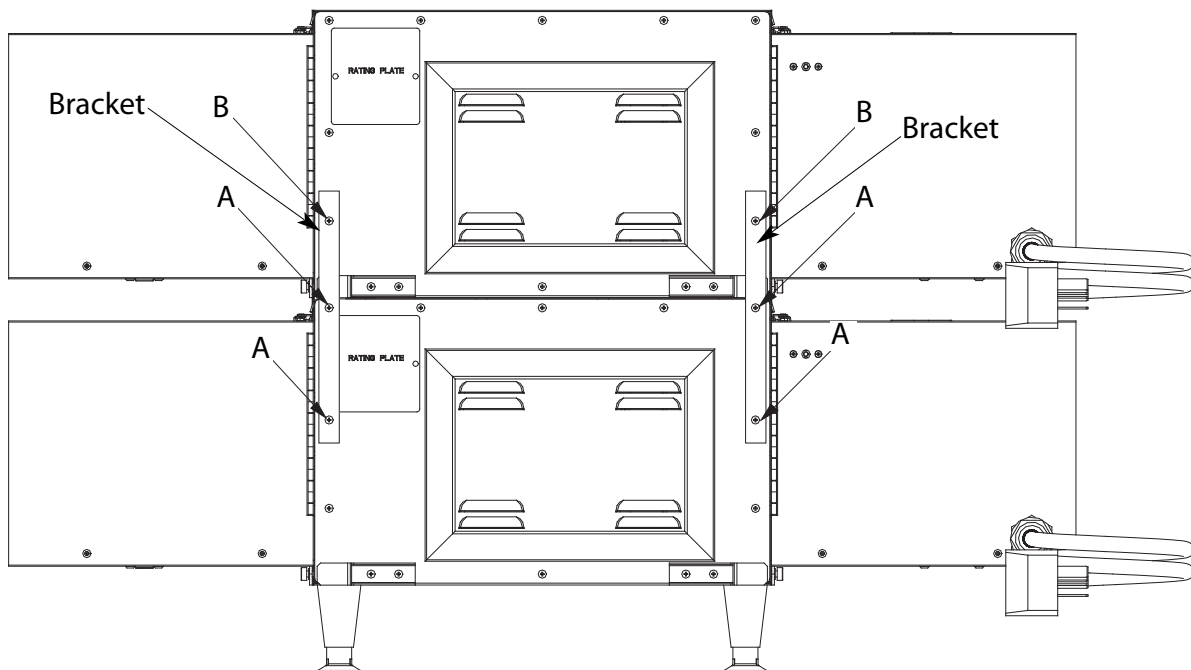

Figure 6: Stacked Ovens
3. Remove the 4 screws marked A in Figure 6, below.
4. Align each bracket with the holes in the bottom oven and reinstall the screws marked A in Figure 6, below.
5. Remove the 2 screws marked B in Figure 6, below.
6. Align each bracket with the holes in the top oven and reinstall the screws marked B in Figure 6, below.